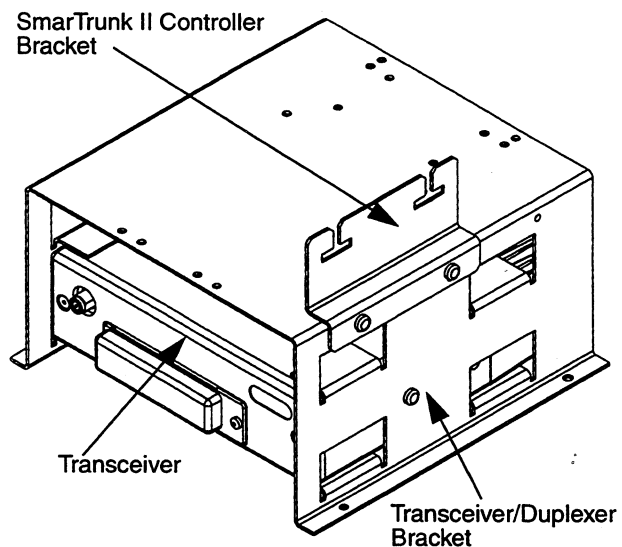

Figure 2-4. SmarTrunk II Controller Brackets
2. Locate the four (4) TT4.0 x 7.0 screws in kit HLN9613.
3. Attach one bracket to the right side of the transceiver/duplexer module bracket, with two (2) of the TT4.0 x 7.0 screws using a T20 Torx driver. Refer to Figure 2-4 for proper orientation.
4. Attach the remaining bracket to the left side of the control head assembly/preselector bracket with the remaining two (2) TT4.0 x 7.0 screws. Tighten all four (4) screws to 1.58 N-m (14 in.-lbs.) torque.